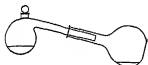

Fig 27
*a* Pulverize about 15 g of sodium nitrate and place it in a dry retort or distilling-flask [Store:room] Cover the salt with concentrated sulphuric acid and wait until this liquid has permeated and moistened the entire mass Support the vessel by a clamp upon a sand bath and allow the neck of the retort (or side-tube of the flask) to extend to the bottom of a small flask (the receiver, Fig 27) In order that the vapor of the nitric